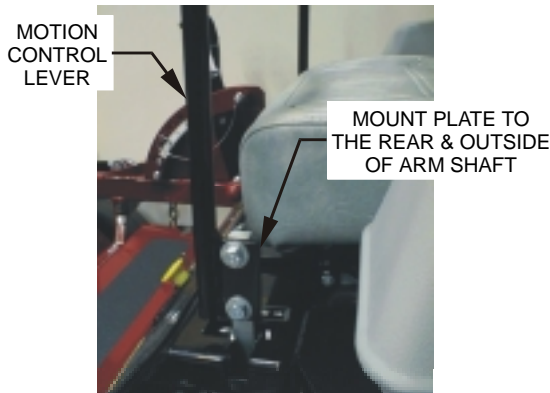

FIG. 4
- 3.7.1 Loosen and remove the two (2) $\frac{3}{8}$ " x 1" bolts and spring disc washers which attach the motion control levers to the control arm shafts for shipping and the two (2) $\frac{3}{8}$ " x 1" bolts and spring disc washers which are screwed into the control arm shafts.
- a) Install the left motion control lever onto the control arm shaft (See Fig.4) on the left side of the console. Place the lever (with the mounting plate towards the rear) on the **outside** of the control arm shaft and secure with the bolts and washers. Position the lever so the bolts are in the center of the slots on the lever mounting plate and tighten until snug. Repeat on opposite side of unit.